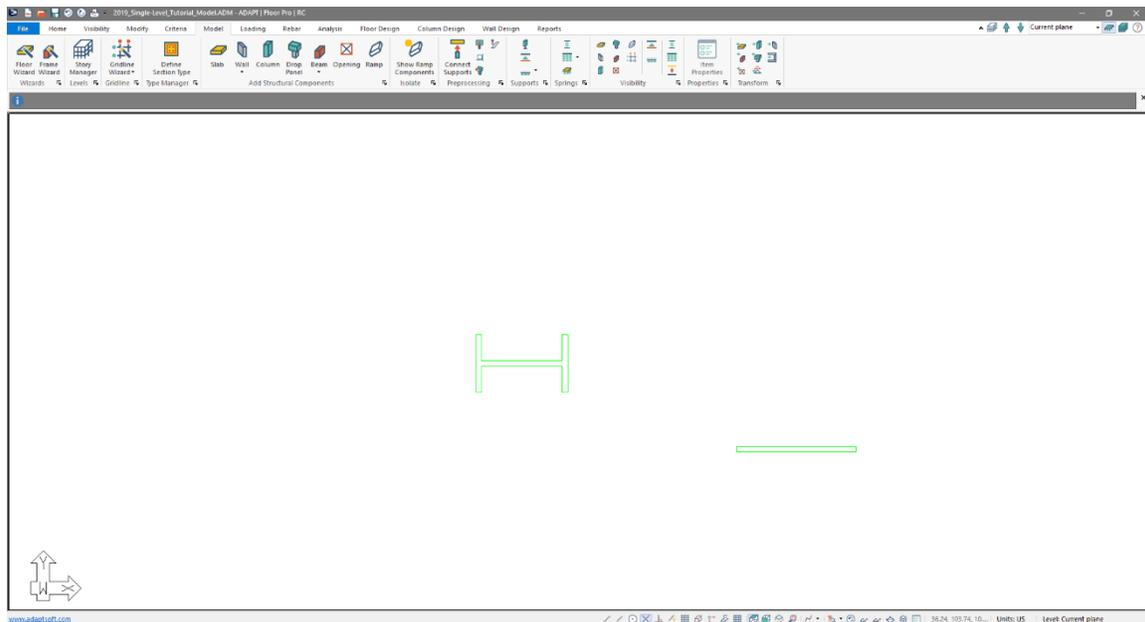

Figure 2-30
- Click on the *OK* button, the user should now see the wall polylines from the imported DWG as shown in **FIGURE 2-30**.